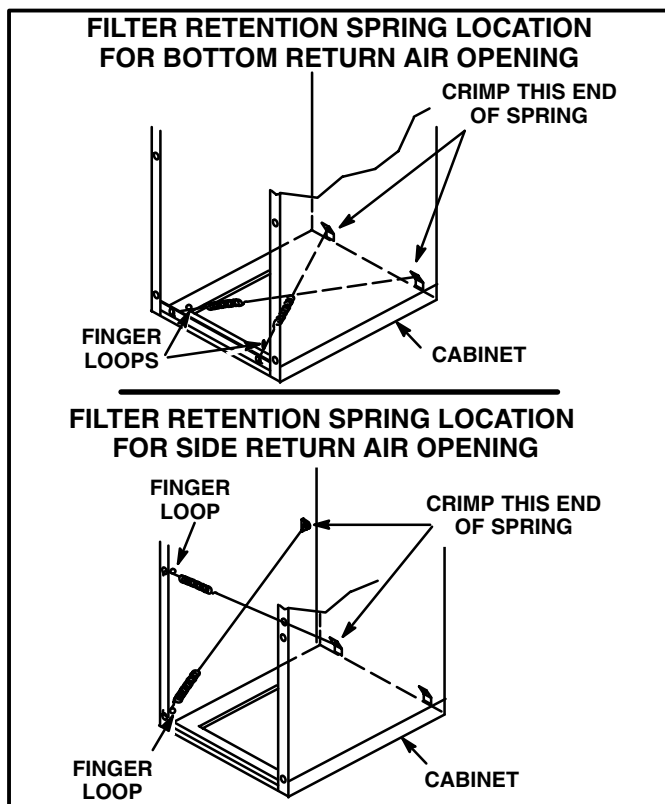

FIGURE 12
G20 units use a cleanable hogshair-type filter. Holding springs lock filter in place by securing hook in holes provided in unit. All units are factory shipped for side air return. Bottom filter applications for use on G20Q5/6-100, G20 Q3-125, G20Q4/5-125 and G20Q5/6-150 require an optional kit available from Lennox. See figure 12.
- 1- The filter supplied with the G20 series unit can be washed with cold water. Direct water through filters in the opposite direction of air flow. When dry, replace filter and reconnect springs. Refer to figure 12 for spring position.